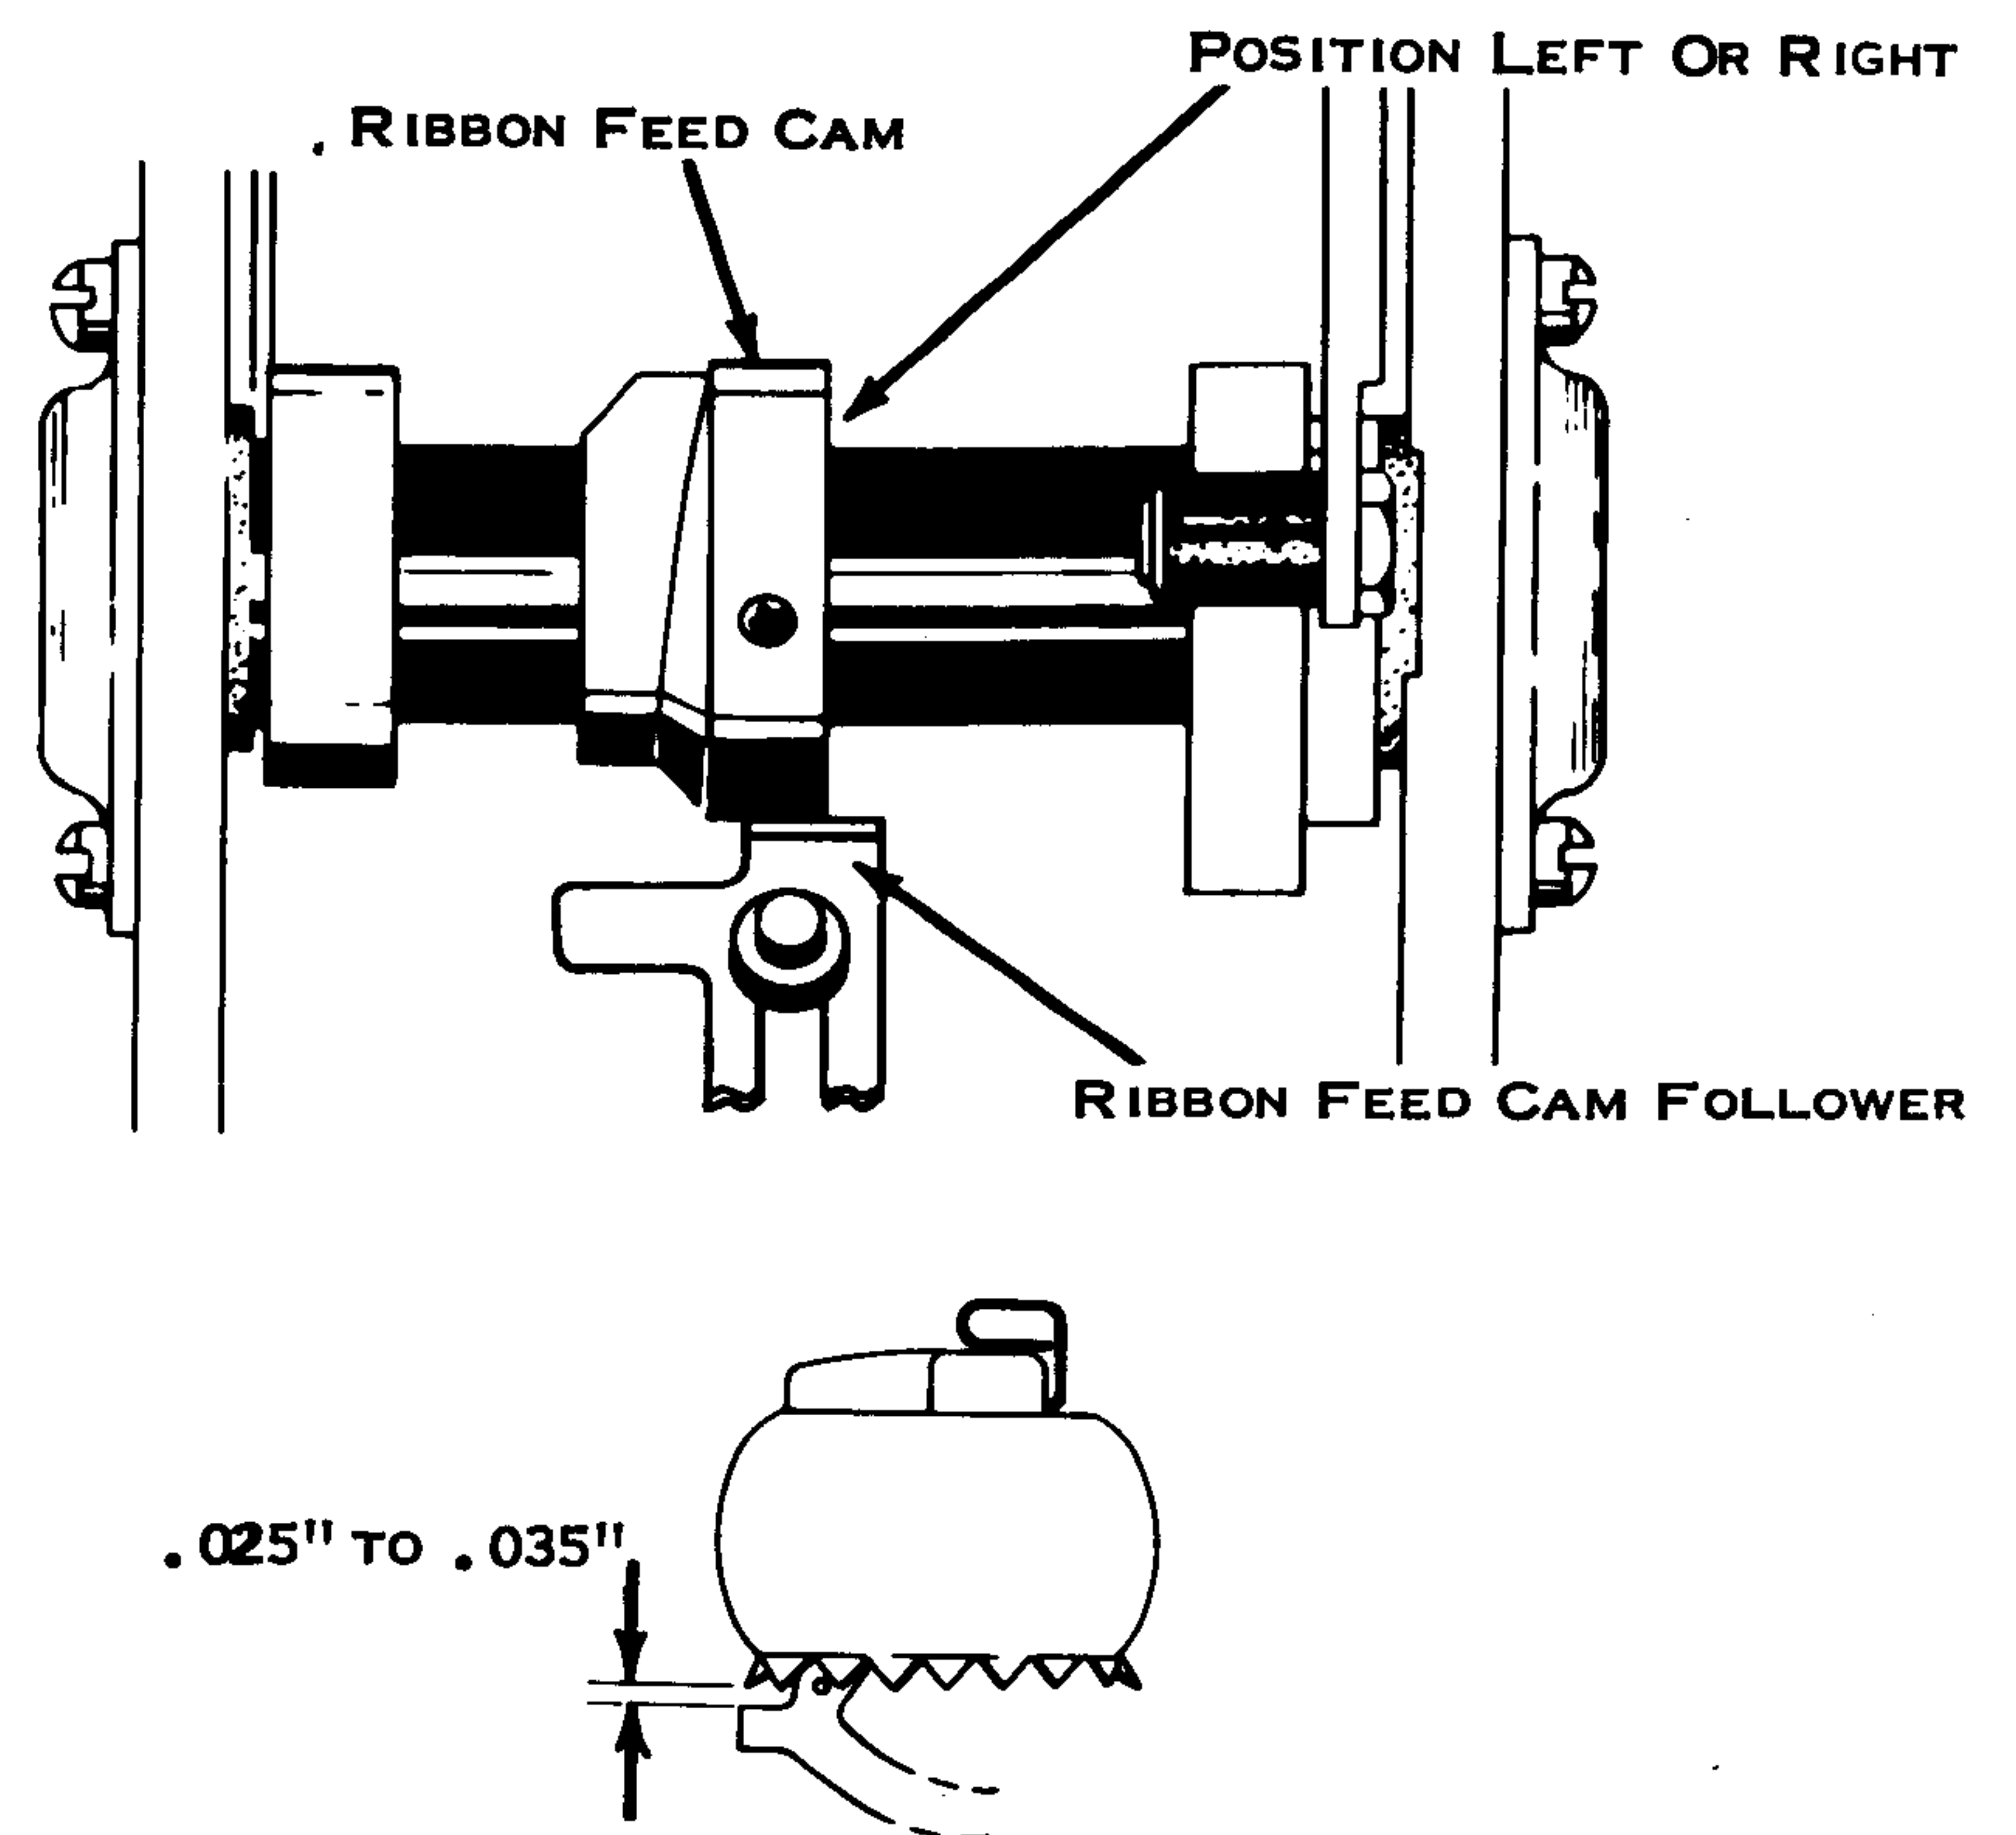

Figure 68. Detent Cam Adjustment
10. Ribbon Feed And Detent Cam Gearless Tilt (Fig. 68) - Position left or right for .025" to .035" clearance between the detent and typehead skirt in a tilt two position.